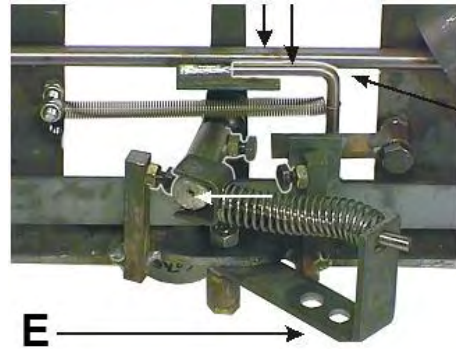

Figure 24. The splitting mechanism returns
3. When the trigger rod is close to the splitting blade, the valve lever E turns to the right, whereupon the spring pushes the jointed lever A to the left stopping the splitting motion and returning the splitting beam. (Figure 24.)
4. When the jointed lever A is on the left, the trigger lever B and trigger rod C are lowered to the initial position. (Figure 24.)